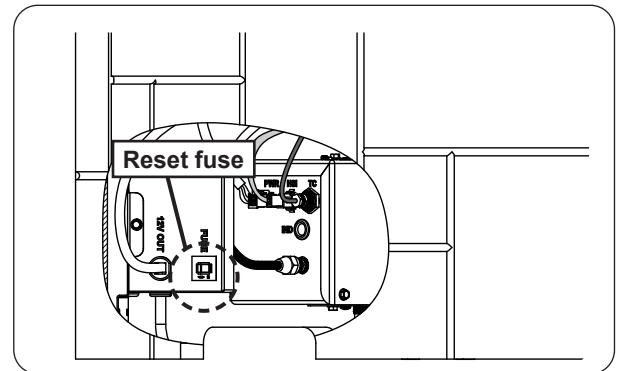

Fig. 45-2 Reset fuse
2. Gain access to the valve box and reset the fuse as shown in Fig. 45-2.